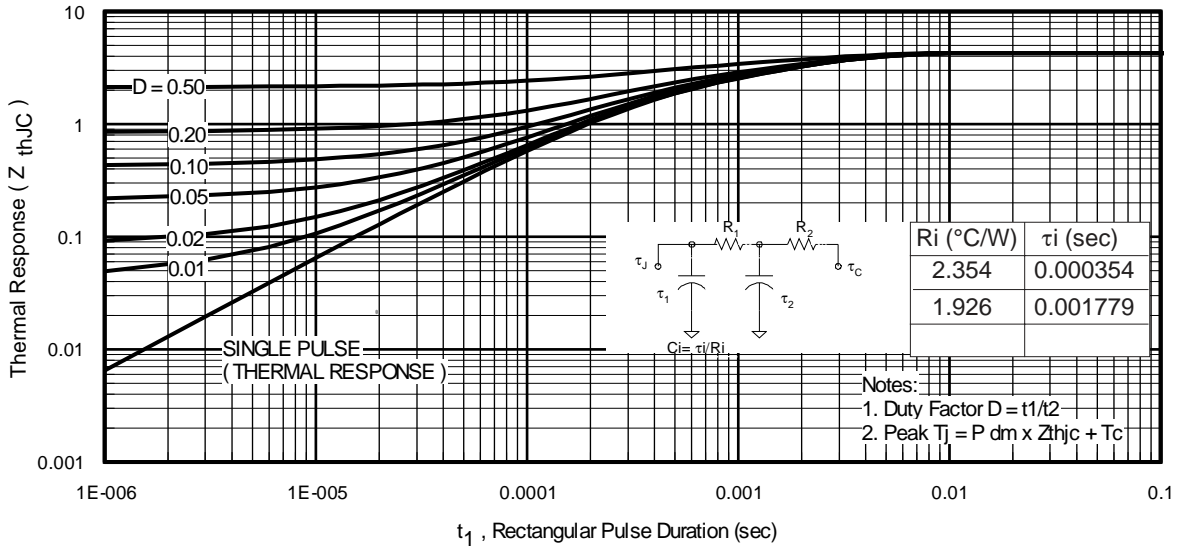
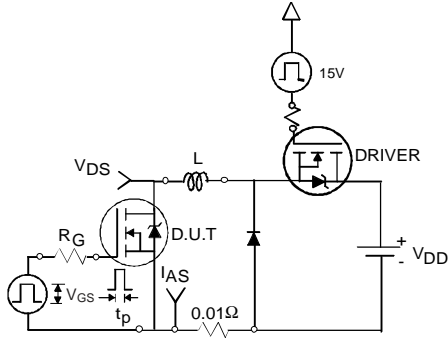

Fig 11. Maximum Effective Transient Thermal Impedance, Junction-to-Case
Fig 12a. Unclamped Inductive Test Circuit
3. Equation below based on circuit and waveforms shown in Figures 12a, 12b.
$Z_{thJC}(D, t_{av})$ = Transient thermal resistance, see figure 11)
- ① Repetitive rating; pulse width limited by max. junction temperature. (See fig. 11).
- ② Limited by T_{Jmax} , starting $T_J = 25^\circ\text{C}$, $L = 0.54\text{mH}$, $R_G = 25\Omega$, $I_{AS} = 9.6\text{A}$, $V_{GS} = 10\text{V}$. Part not recommended for use above this value.
- ③ Pulse width $\leq 1.0\text{ms}$; duty cycle $\leq 2\%$.
- ④ C_{OSS} eff. is a fixed capacitance that gives the same charging time as C_{OSS} while V_{DS} is rising from 0 to $80\% V_{DSS}$.
- ⑤ Limited by T_{Jmax} , see Fig.12a, 12b, 15, 16 for typical repetitive avalanche performance.
- ⑥ This value determined from sample failure population. 100% tested to this value in production.
- ⑦ When mounted on 1" square PCB (FR-4 or G-10 Material). For recommended footprint and soldering techniques refer to application note #AN-994.
- ⑧ $R_{\theta jmc}$ measured at